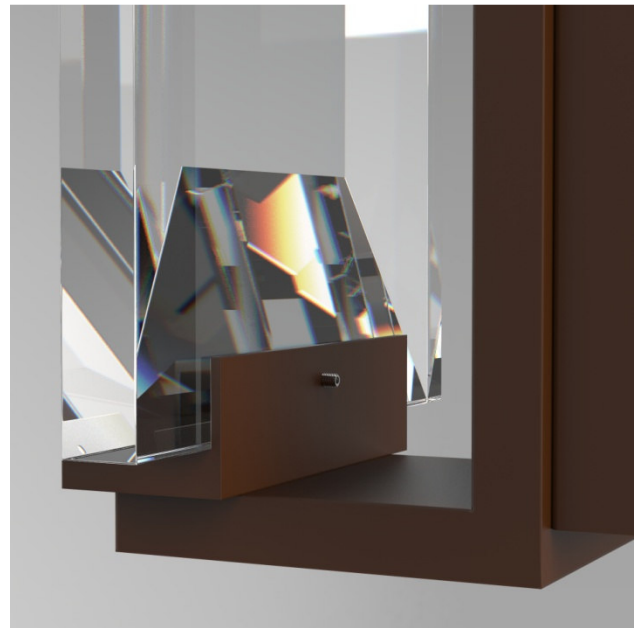

Figure 7
- Secure glass by tightening set screws on backside of claws. Do not over-tighten. (Figure 7)